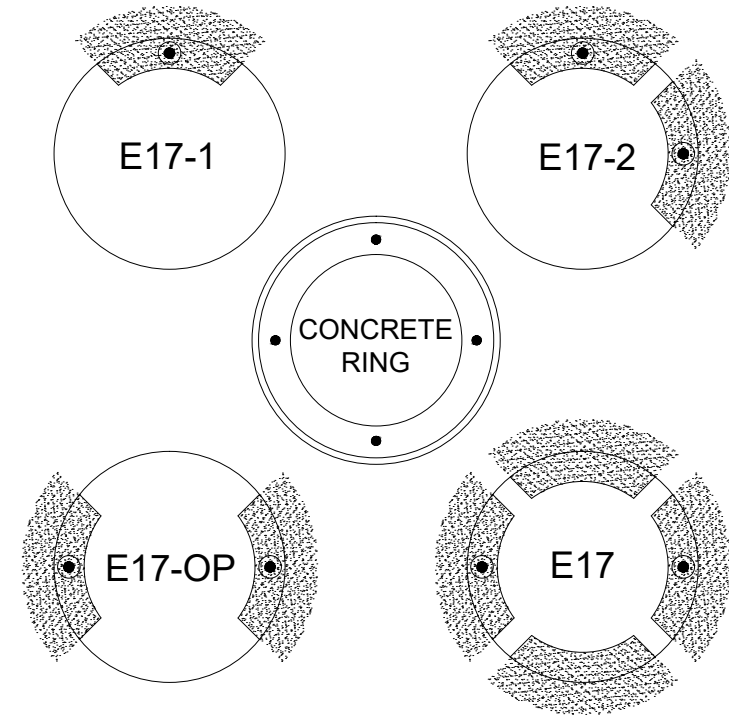

Figure 3
5. Attach ½" PVC conduit fitting(s) (by others). **When installing the Housing, be sure to position it so the holes in the Concrete Ring align with where the holes in the Faceplate will be when it is facing the desired position. Note that each mounting hole in the Faceplate is in the center of the light window.** Refer to Figure 3 for Faceplate/Concrete Ring alignment. Place Housing assembly into hole and join to conduit(s).